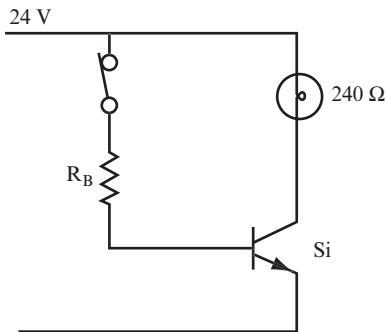

FIGURE 4.3
- 4** The circuit in Figure 4.3 shows a lamp with a resistance of 240 ohms in place of R_C .